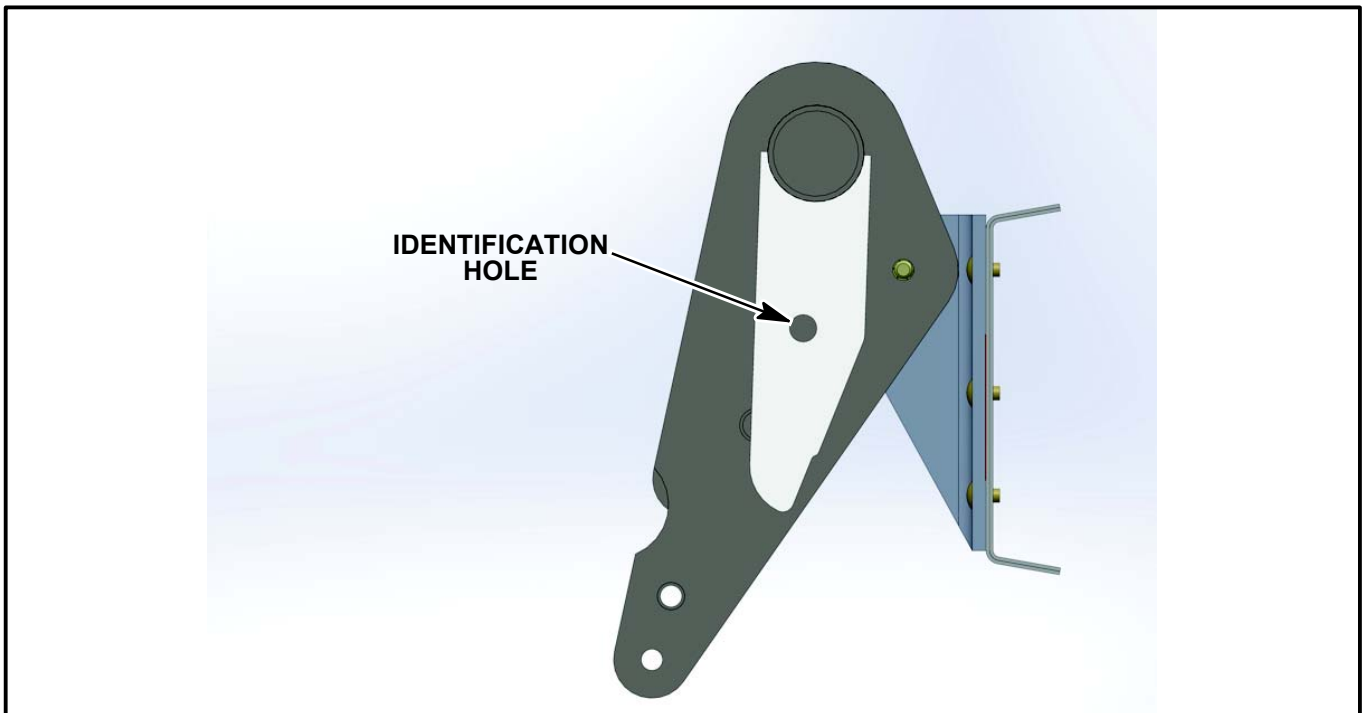

Figure SIM20-142-15 - ACTUATOR ARM IDENTIFICATION HOLE
- 1.16. Enlarge hole in the actuator arm to 0.250" drill bit. This will be used to identify that the SIM20-142 has been accomplished. (Refer to Figure SIM20-142-15.)